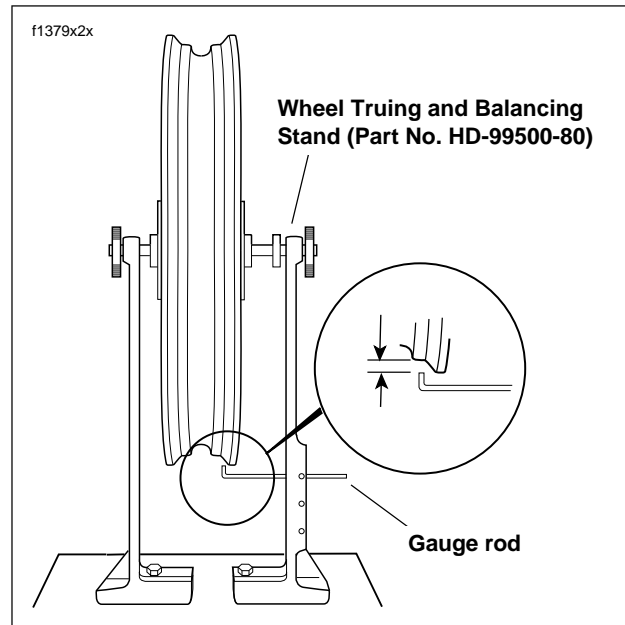

Figure 2-13. Checking Cast Rim Radial Runout
1. See Figure 2-13. Install truing arbor in wheel hub and place wheel in WHEEL TRUING AND BALANCING STAND (Part No. HD-99500-80).